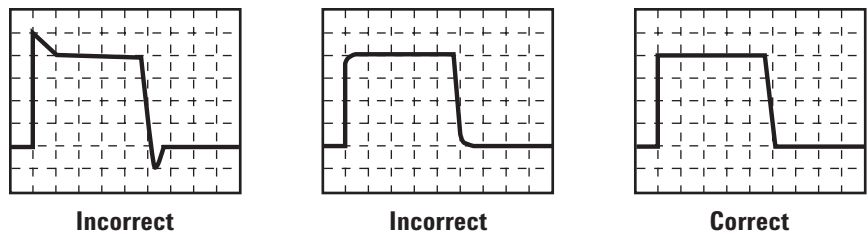

Figure 4.
3. Set the high-frequency compensation adjustment on the probe for the flattest, most square, and most horizontal pulse possible (see Figure 4).